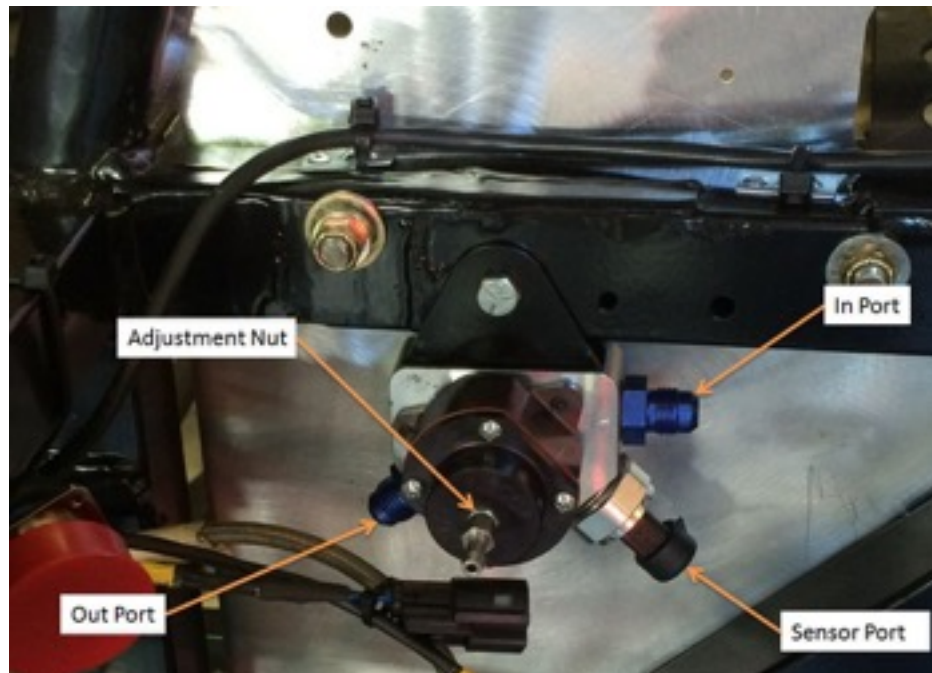

Figure 19 – Fuel Pressure Regulator and Adapter Block
44. Measure 3" to 3.25" to the right of the left upper corner and install a ¼-20 riv-nut (Part # G1010047) to mount the plate assembly. (See Figure 19)
49. Mount this assembly to the frame using a ¼-20 bolt and washer. (Part # 1000106 & 1020392) (See Figure 19)